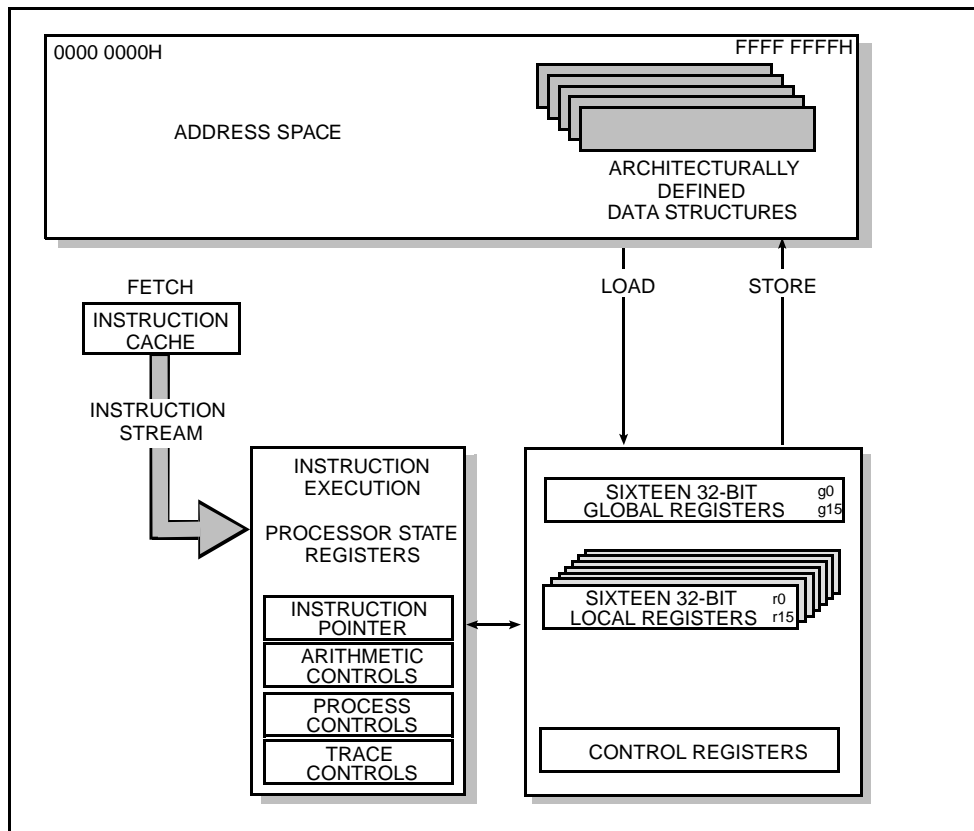

Figure 2. 80960SA Programming Environment
| Figure 2  | 80960SA Programming Environment ..... 1  |
1. **Large Register Set.** Having a large number of registers reduces the number of times that a processor needs to access memory. Modern compilers can take advantage of this feature to optimize execution speed. For maximum flexibility, the 80960SA provides thirty-two 32-bit registers. (See Figure 2.)